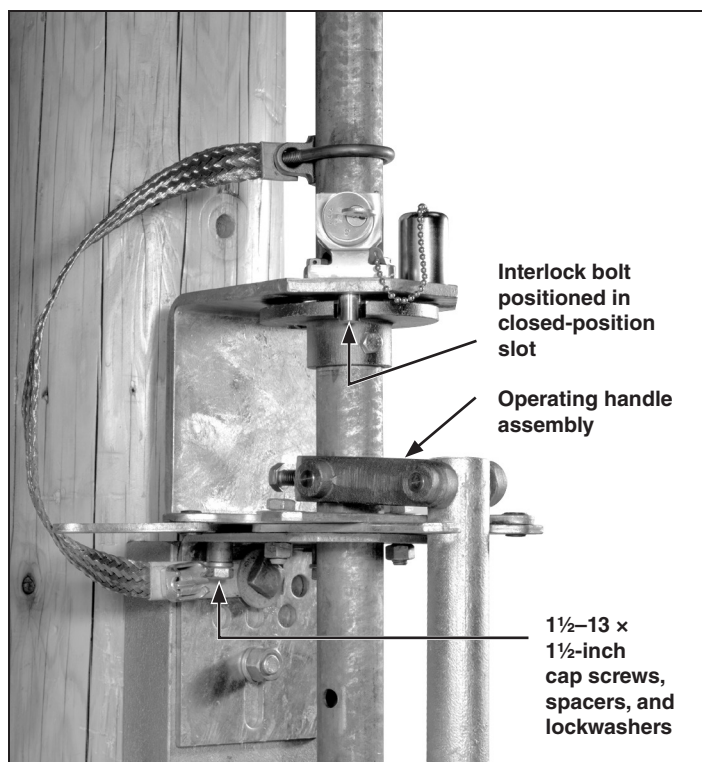

Figure 14. Fasten the operating-handle assembly.
STEP 18. Fasten the operating-handle assembly to the lowest vertical operating-pipe section using the piercing set screws furnished. The pin should engage the through-hole in the vertical operating pipe nearest the position shown on the erection drawing. See Figure 14.